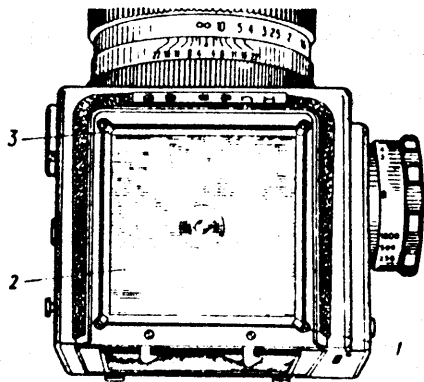

Fig. 3. Camera KIEV 88 (first view):
- 4.5. **Viewfinder.** Unscrew four screws 1 (Fig. 3) out of the camera housing, remove four straps 3 and extract viewfinder 2.
8.11. Clean the optical elements of viewfinder 2 (Fig. 3) from two external sides. Install the viewfinder into the camera frame with the Fresnel lens down onto the adjusting screws and secure it with four straps 3 with screws 1.
aperture by releasing the curtain. The image also must be sharp. Carry out adjustment by shifting the screws located under viewfinder 2 (Fig. 3).